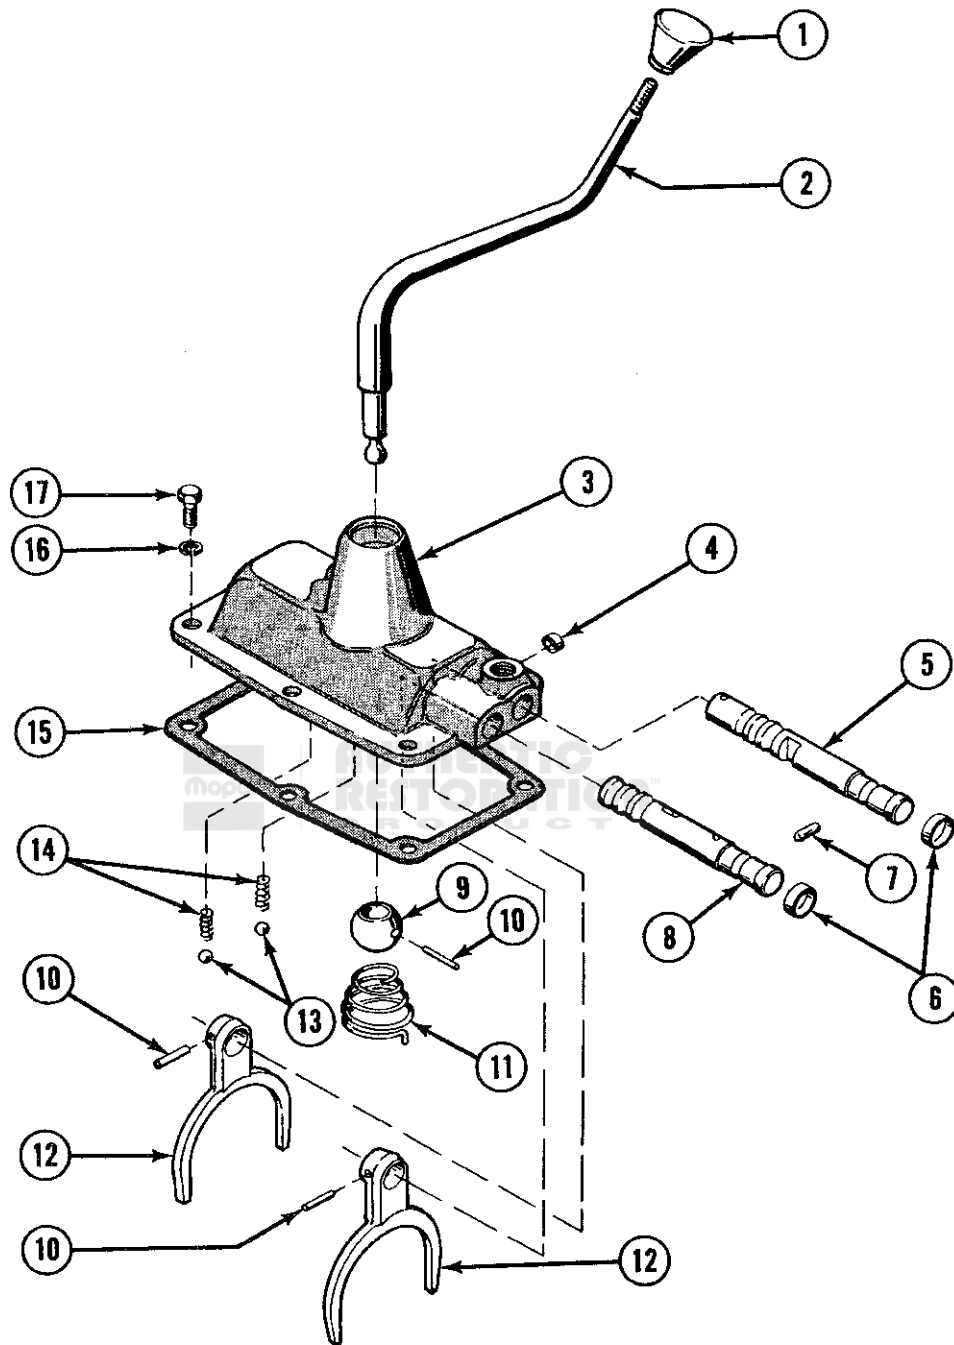

FIG. J-14—CANE SHIFT CONTROL HOUSING ASSEMBLY
- b. Remove cane shift housing cover and gasket from top of transmission case. The shift housing cover can be disassembled if necessary, at this point, by removing the shift rails, poppet balls, springs, and shift forks. Refer to Fig. J-14.